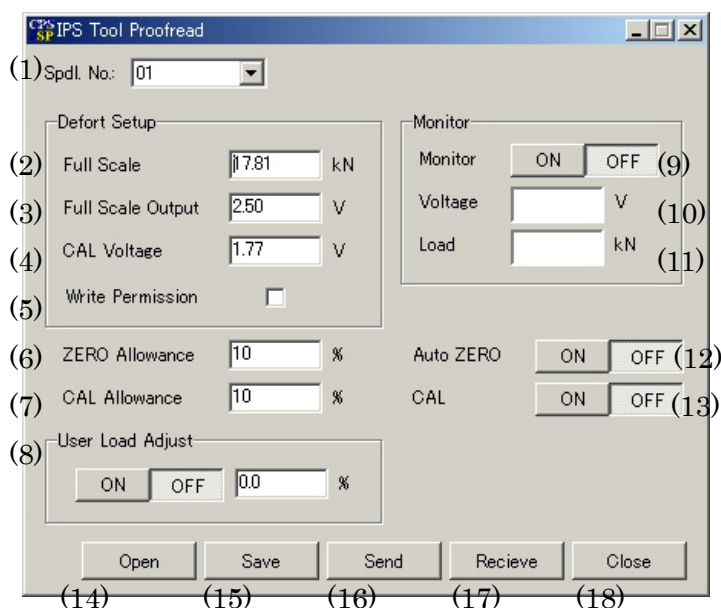

Fig.4-3 IPS Tool Proofread screen
Information, such as a tool name and proofreading value, is not memorized by load cell amplifier. It is necessary to tune proofreading value finely for every tool. Fig. 4-3 In IPS tool Proofread screen, (2) full scale and (4)CAL voltage are value peculiar to a tool. Since each value is indicated by the main part of a tool, please read it and set it to the Proofread screen. Load accuracy is not guaranteed unless it sets these value to thr Proofread screen correctly. If a check is put into the check box of Write Permission and Send button is pushed, the Full Scale and CAL Voltage will be set to a controller.